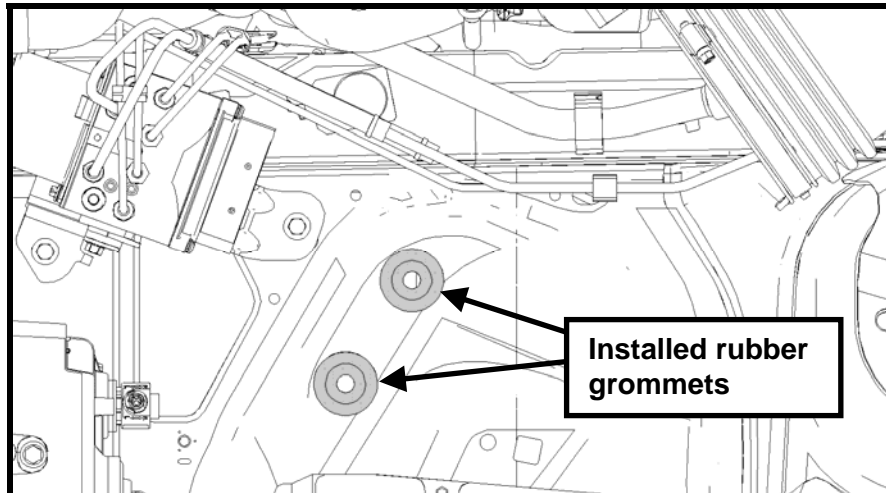

Fig. 34
STEP 18: Install the rubber grommets (previously removed from the factory airbox) into the holes located beneath the airbox, rearward of the ABS module (See Fig. 34).